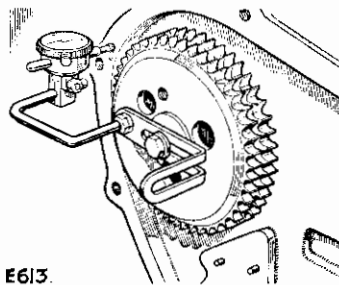

Fig. A-417—Checking camshaft end-float
- Fit the front thrust plate and tighten bolts—do not bend up the locking tabs at this stage. Fit camshaft chain wheel and then check the camshaft end-float with a dial test indicator as illustrated in Fig. A-417, ensuring that the chainwheel bolt is tightened fully. The camshaft end-float reading must be within .0025 to .0055 in. (0,06 to 0,13 mm).